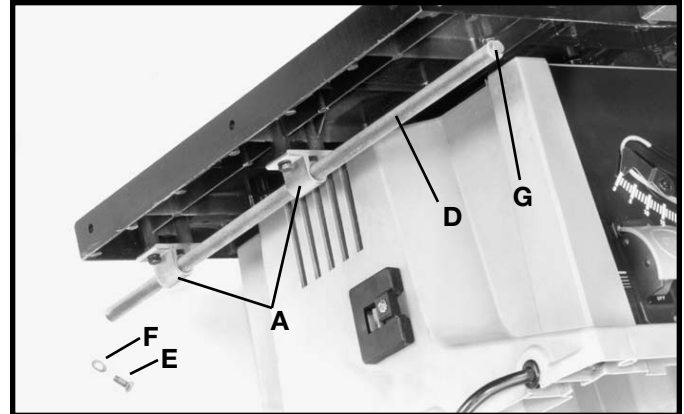

Fig. 32
2. Insert rod (D) Fig. 32, through holes in brackets (A) as shown. Then thread and tighten one 1/4-20x1/2" hex head screw (E) and 1/4" flat washer (F) into the front end of rod (D) as shown at (G). Assemble remaining rod to the opposite side of saw in the same manner.